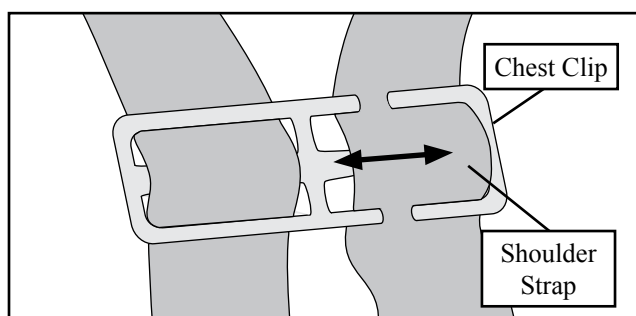

Figure 5 - Fastening a Shoulder Strap
4. Thread the shoulder strap on the patient's left side through the chest clip (Figure 5) and slide the chest clip to armpit level.